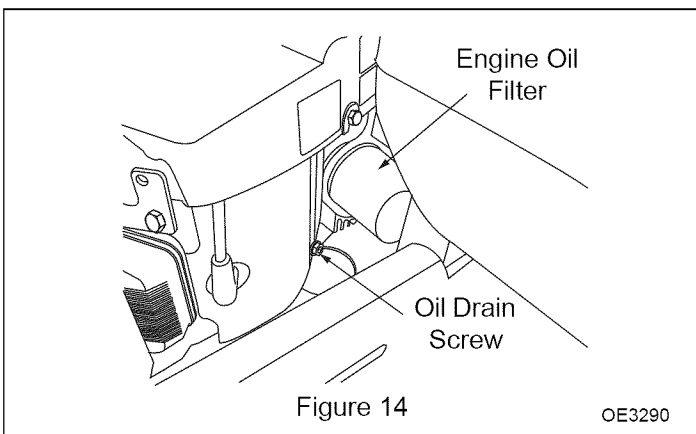

Figure 14
4. Remove the oil drain screw, see figure 14, and drain the oil into a suitable container while the engine is still warm.